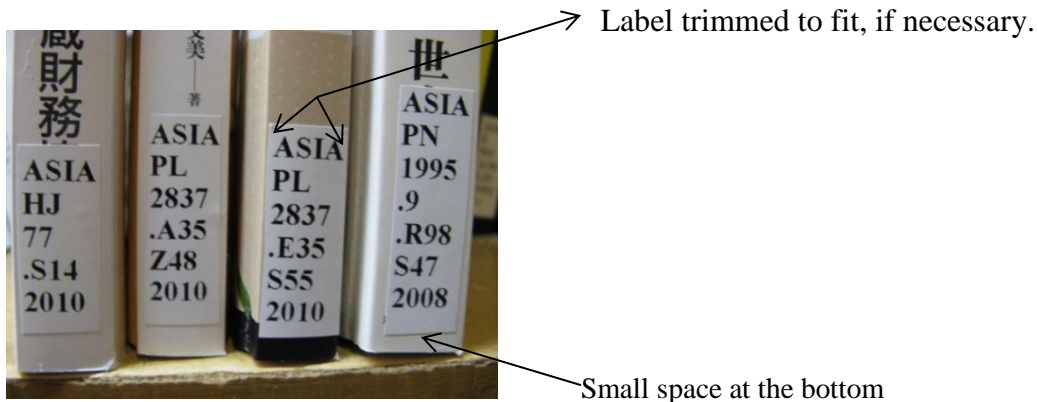

Fig. 4.1
- d. Spine labels will be affixed to the lower spines of each book. Some trimming of the label may be necessary, but the entire Call number must be legible. A small space between the bottom of the label and the bottom of the spine is also recommended, to ensure full visibility. (Fig. 4.1)